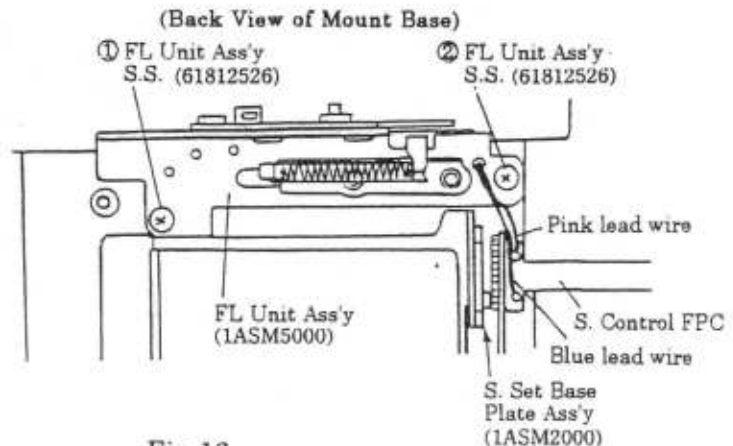

Fig.16
- 2) Unsolder the Pink and Blue lead wires (from FL Board) on the S. Control FPC. (See Fig. 16)
- 3) Tighten the FL Unit Ass'y Setscrews (61812526) $\times 2$ in the numerical order as shown in Fig. 16.